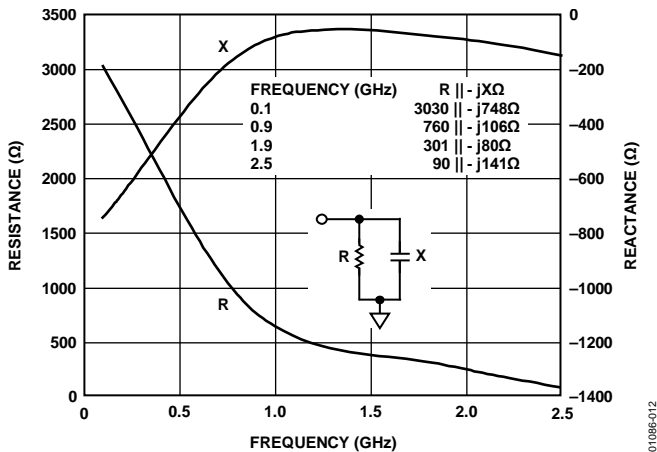
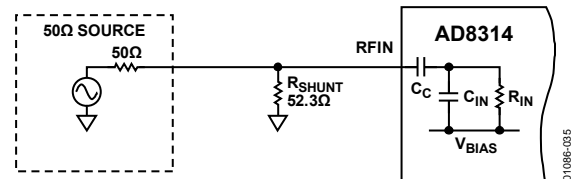
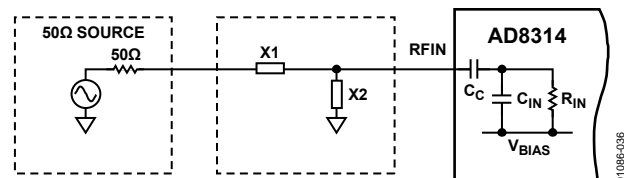
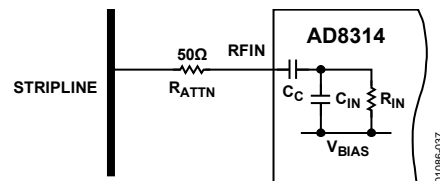

Figure 12. Input Impedance
Figure 35. Broadband Resistive
Figure 36. Narrowband Reactive
Figure 37. Series Attenuation
The internal 5 pF coupling capacitor of the AD8314, along with the low frequency input impedance of 3 k $\Omega$ , gives a high-pass input corner frequency of approximately 16 MHz. This sets the minimum operating frequency. Figure 35 through Figure 37 show three options for input coupling. A broadband resistive match can be implemented by connecting a shunt resistor to ground at RFIN (see Figure 35). This 52.3  $\Omega$  resistor (other values can also be used to select different overall input impedances) combines with the input impedance of the AD8314 (3 k $\Omega$ ||2 pF) to give a broadband input impedance of 50  $\Omega$ . While the input resistance and capacitance ( $C_{IN}$  and  $R_{IN}$ ) varies by approximately  $\pm 20\%$  from device to device, the dominance of the external shunt resistor means that the variation in the overall input impedance is close to the tolerance of the external resistor.
At frequencies above 2 GHz, the input impedance drops below 250  $\Omega$  (see Figure 12), so it is appropriate to use a larger value shunt resistor. This value is calculated by plotting the input impedance (resistance and capacitance) on a Smith Chart and choosing the best value shunt resistor to bring the input impedance closest to the center of the chart. At 2.5 GHz, a shunt resistor of 165  $\Omega$  is recommended.
A reactive match can also be implemented as shown in Figure 36. This is not recommended at low frequencies as device tolerances dramatically varies the quality of the match because of the large input resistance. For low frequencies, Figure 35 or Figure 37 is recommended.
In Figure 36, the matching components are drawn as general reactances. Depending on the frequency, the input impedance at that frequency, and the availability of standard value components, either a capacitor or an inductor is used. As in the previous case, the input impedance at a particular frequency is plotted on a Smith Chart and matching components are chosen (shunt or Series L, shunt or Series C) to move the impedance to the center of the chart. Table 5 gives standard component values for some popular frequencies. Matching components for other frequencies can be calculated using the input resistance and reactance data over frequency, which is given in Figure 12. Note that the reactance is plotted as though it appears in parallel with the input impedance (which it does because the reactance is primarily due to input capacitance).
Figure 37 shows a third method for coupling the input signal into the AD8314, applicable in applications where the input signal is larger than the input range of the log amp. A series resistor, connected to the RF source, combines with the input impedance of the AD8314 to resistively divide the input signal being applied to the input. This has the advantage of very little power being tapped off in RF power transmission applications.
**Table 5. X1 and X2 Recommended Components in Figure 36**